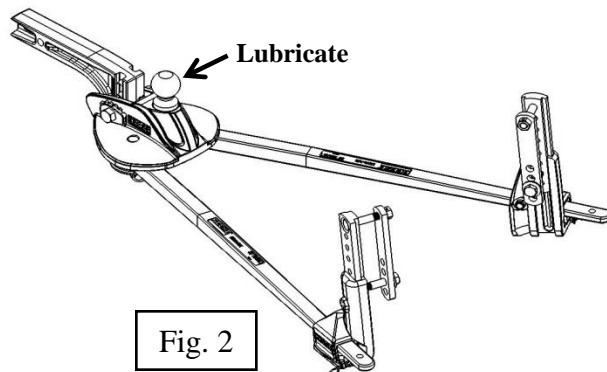

Fig. 2
- Lubricate the hitch ball with automotive grease to prevent unnecessary wear (See Fig. 2)